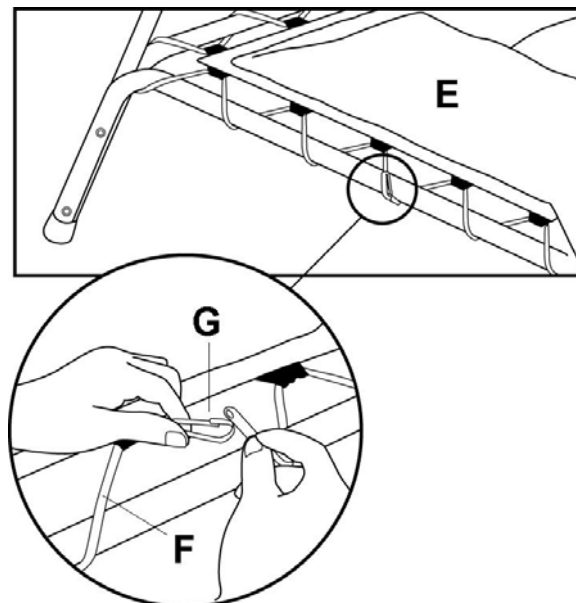

Figure 7
Step 7: Make sure the bungee cord is threaded through every eyelet loop and over the whole way around the frame. Connect the ends by hooking the carabiner clip to the other end that with a hole on it as shown in Fig 7.